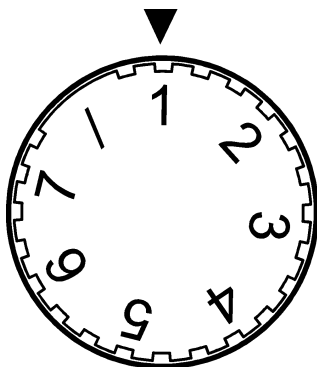

Fig. 3b
5. **To adjust the thermostat setting** (Fig 3b): The lower control knob alters the temperature setting, the knob has seven positions.